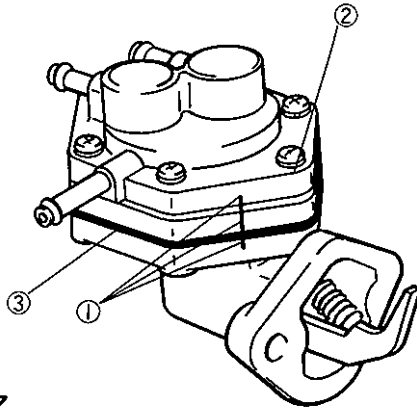

Fig. 5-7
Scribe match marks ① across the joint seams to establish and identify the angular positions of upper half ② and lower half ③, as shown in Fig. 5-7. This provision is necessary because the screw holes are so located as to permit the two halves to be angularly positioned in more than one way, whereas the pump can be piped only when the pump is assembled as shown.